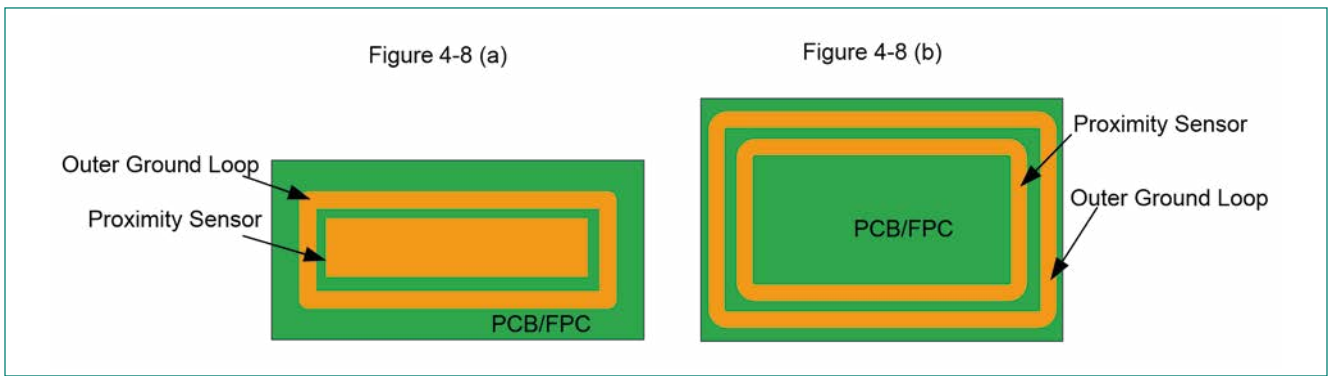

Figure 4-8 Proximity Sensor Construction on PCB/FPC
- Copper trace on a PCB or FPC: A long PCB trace can be used as a proximity sensor. The trace can be a straight line, or it can surround the perimeter of a system's user interface, as Figure 4-8 shows. Proximity sensor construction using PCB trace is appropriate for mass production, but it is not as sensitive as a wire sensor. It is recommended to have a ground loop around the proximity sensor to reduce the noise and provide immunity against ESD events. There is a trade-off between proximity range and noise immunity, ESD performance. For proximity sensor and ground loop layout recommendations, refer to the General Layout Guidelines sheet of the design toolbox.